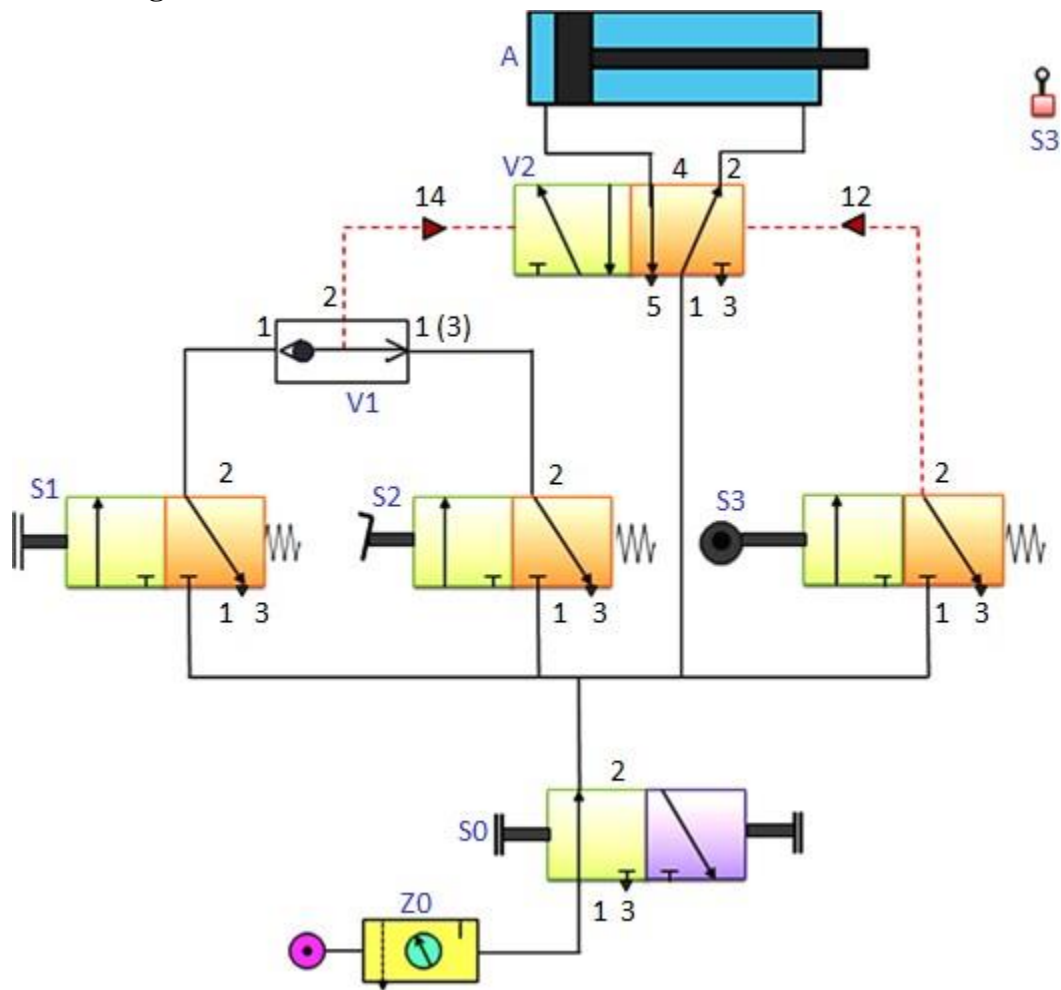

Fig. 6.6.1 Pneumatic circuit for shuttle valve operation
Figure 6.6.1 shows the proposed circuit diagram. As the problem stated, upon actuation of either the push button of valve (S1) or the foot pedal valve (S2), a signal is generated at 1 or 1(3) side of the shuttle valve. The OR condition is met and the signal is passed to the control port 14 of the direction control valve (V2). Due to this signal, the left position of V2 is actuated and the flow of air starts. Pressure is applied on the piston side of the cylinder (A) and the cylinder extends. If the push button or pedal valve is released, the signal at the direction control valve (V2) port is reset. Since DCV (V2) is a double pilot valve, it has a memory function which doesn't allow switching of positions. As the piston reaches the rod end position, the roller valve (S3) is actuated and a signal is applied to port 12 of the DCV (V2). This causes actuation of right side of DCV (V2). Due to this actuation, the flow enters at the rod-end side of the cylinder, which pushes the piston towards left and thus the cylinder retracts.